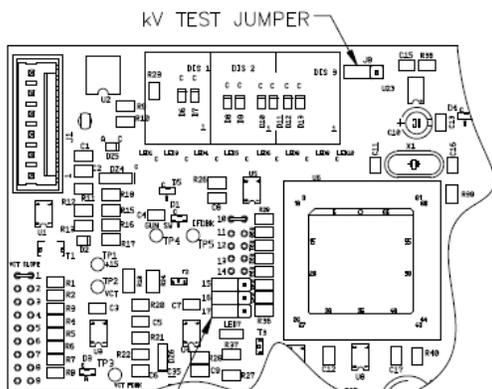

Figure 10: KV Test Jumper Location
To assist in testing and troubleshooting, a jumper (J8) has been added to the main PC board. By covering (shorting) both terminals of this jumper, the high voltage of the spray applicator can be activated. Thus, for testing and troubleshooting, high voltage output can be obtained without the need to turn on the gun on-off switch. **After testing, the jumper must be repositioned so that it covers only one terminal (open) or the high voltage will stay on all the time.** See Figure 10 for the location of KV test jumper J8. Ensure the jumper is installed on **ONLY ONE** post during power on to prevent a boot fault "bF". *The terminals should only be shorted after the unit is completely powered on.*
- Open the cabinet door and position jumper J8, shown in Figure 10, on the main PC Board so that it covers (shorts) both terminals. Note the position must be changed after boot or a boot fault "bF" will occur.